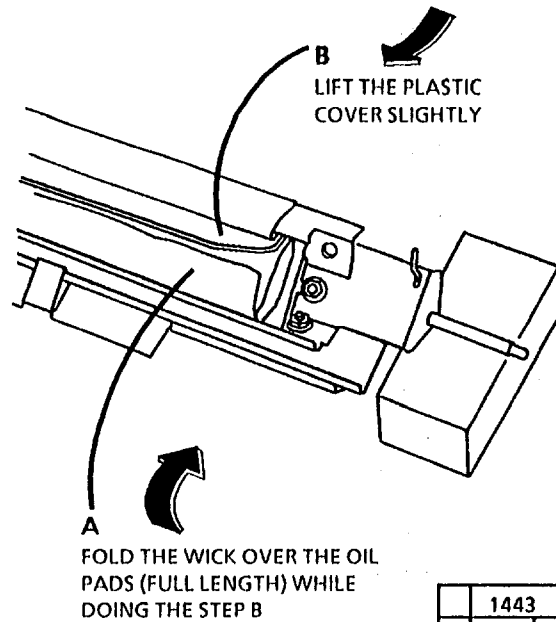

Figure 3. Insert the wick Edge under the Plastic Cover
- (Figure 3): Insert the wick edge under the plastic cover.